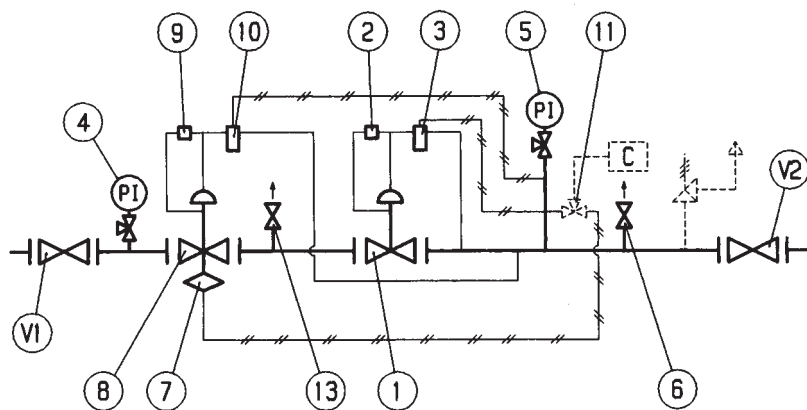

Fig. 28
5.7 MESSA IN SERVIZIO REGOLATORE APERFLUX 851 PIÙ MONITOR IN LINEA APERFLUX 851 CON VALVOLA DI BLOCCO INCORPORATA SB/82 (FIG. 28)
5.7 COMMISSIONING THE REGULATOR APERFLUX 851 PLUS APERFLUX 851 IN LINE MONITOR WITH INCORPORATED SB/82 SLAM-SHUT (FIG. 28)
5.7 INBETRIEBNAHME DES REGLERS APERFLUX 851 MIT IN REIHE GESCHALTETEM MONITOR APERFLUX 851 MIT INTEGRIERTEM SAV SB/82 (FIG. 28)
5.7 MISE EN SERVICE DU DÉTENDEUR APERFLUX 851 ET MONITOR EN LIGNE APERFLUX 851 AVEC VANNE DE SÉCURITÉ INCORPORÉE SB/82 (FIG. 28)
5.7 PUESTA EN SERVICIO DEL REGULADOR APERFLUX 851 CON MONITOR EN LÍNEA APERFLUX 851 Y VÁLVULA DE BLOQUEO INCORPORADA SB/82 (FIG. 28)
5.7 ACTIVAÇÃO DO REGULADOR APERFLUX 851 COM MONITOR EM LINHA APERFLUX 851 COM VÁLVULA DE BLOQUEIO INCORPORADA SB/82 (FIG. 28)